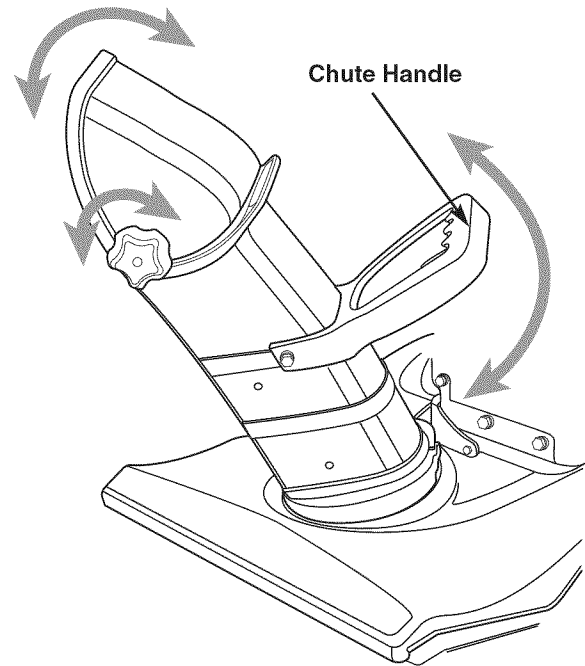

Figure 7
7. Use the chute handle to position the direction you want to throw the snow (see Fig. 7).